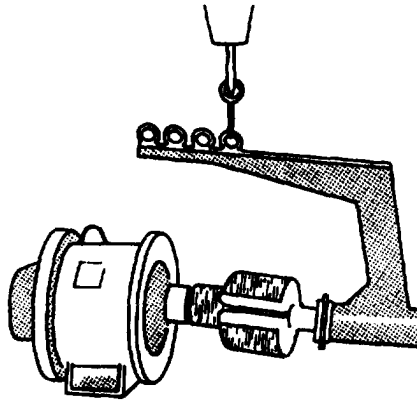

FIGURE 4-12. Rotor Assembly Lifting Device (Typical)
- d. Attach a suitable rotor lifting device to drive hub (27) and overhead hoist as shown in FIGURE 4-12.
- f. Attach a suitable rotor lifting device to drive hub (31) and overhead hoist as shown in FIGURE 4-12.
- g. Carefully install rotor assembly (23) and attached components into generator housing (31).